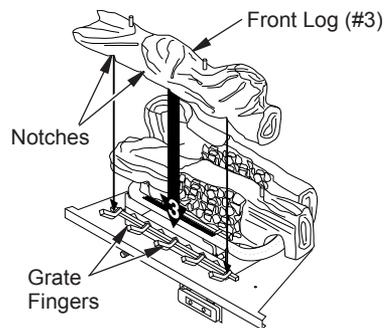

Figure 43 - Installing Front Log (#3)
3. Locate the notches in the bottom of the front log (#3). Place the front log on the grate fingers. Make sure the notches of the front log line up with the grate fingers (see Figure 43).